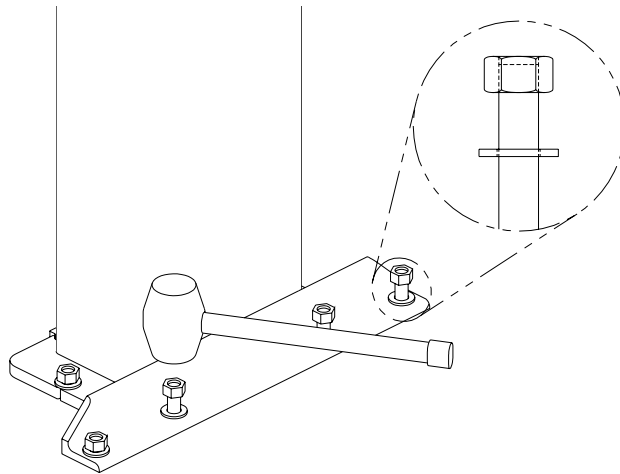

Figure 7
- E. Assemble the washers and nuts onto the anchor bolts. Thread the nuts onto the anchor bolts where the tops of the nuts are just above the top of the bolts, figure 7. Using a hammer, *carefully* tap the anchor bolts into the concrete until the washer rests against the baseplate. Do not damage the nuts or threads.